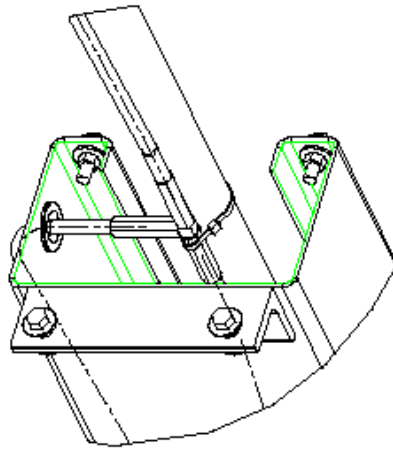

Figure 17
13. **Hydraulic system, Figure 17.**
- D. To prevent the carriages from rubbing the hoses, pull the hoses upward taking out any slack between the cylinder fitting port and the cylinder mount. Secure the hoses to the mainside cylinder with wire tie around the tee and the cylinder, the tee should be positioned to aim directly out through the grommet, Figure 17. Secure the hose to the offside cylinder at approximately the same height with a wire tie.
15. **Bleeding the hydraulic system, Figure 17.**